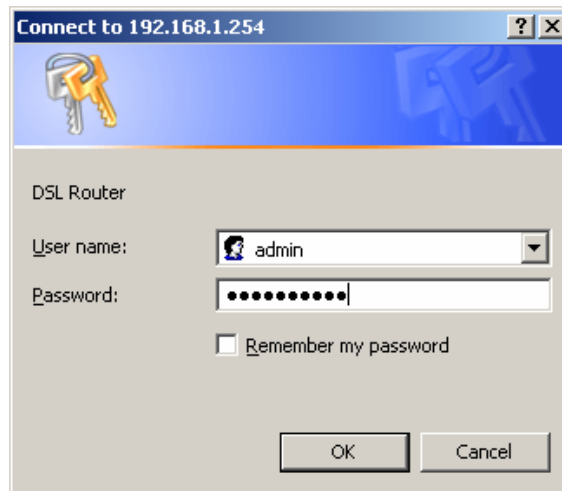

Figure 1. Login dialogue box
- A Dialogue Box will pop up to request the user to login. (Figure 1)